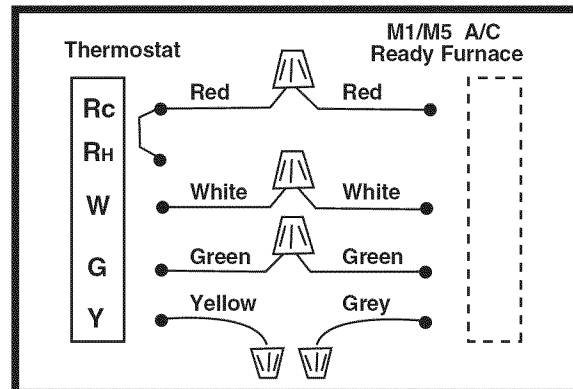

Figure 25. Thermostat Wiring For A/C Ready Models
IMPORTANT NOTE: Proper line voltage polarity must be maintained in order for the control system to operate correctly. Verify the incoming neutral line is connected to the white wire and the incoming "hot" line is connected to the black wire. The furnace will not operate unless the polarity and ground are properly connected as shown in Figure 25.
2. Connect the thermostat wires to the furnace low voltage pigtails (see Figure 25).